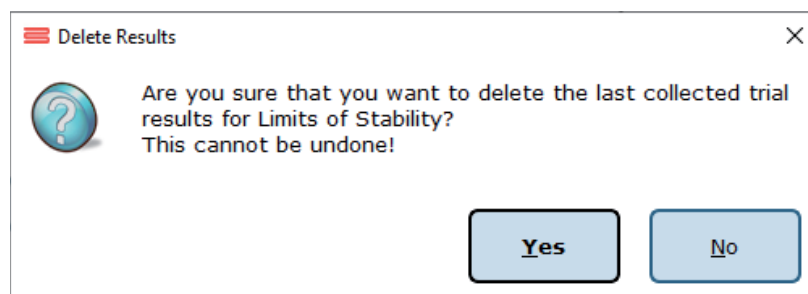

Figure 27: Delete Trial Verification
2. In the popup window that appears, shown in Figure 27, choose either Yes, I want to delete the last collected trial, or No, I do not want to delete the last collected trial.